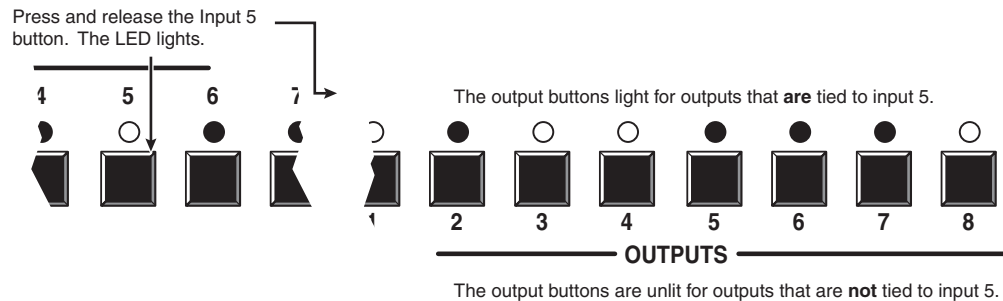

Figure 3-23 — Select an input
- Press and release the Input 5 button (figure 3-23).